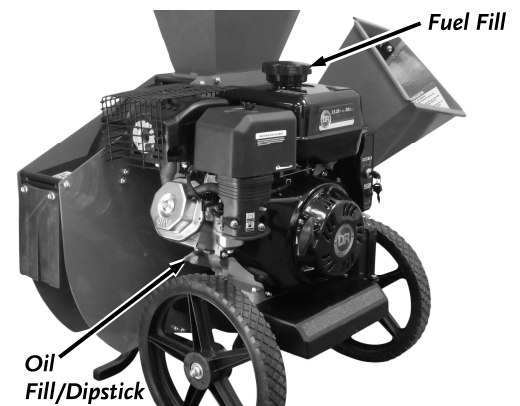

Figure 5
1. Position the machine so the Engine is level. Remove the Oil Fill/Dipstick (**Figure 5**).
5. Remove the Fuel Fill Cap (**Figure 5**) and fill the Fuel Tank with fresh, unleaded gas (with a minimum of 85 Octane) to approximately 1" to 1-1/2" below the top of the Fill Neck to allow for Fuel expansion. Be careful not to overfill.